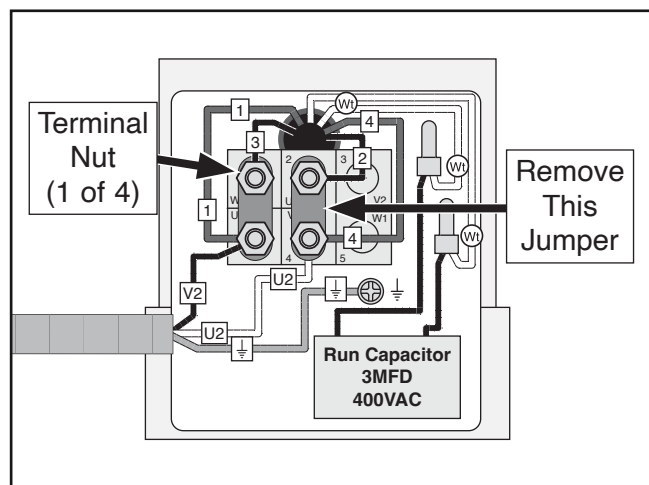

Figure 12. Pump motor wired for 115V.
11. Remove (4) terminal nuts (see **Figure 12**).
12. Remove and discard jumper shown in **Figure 12**.